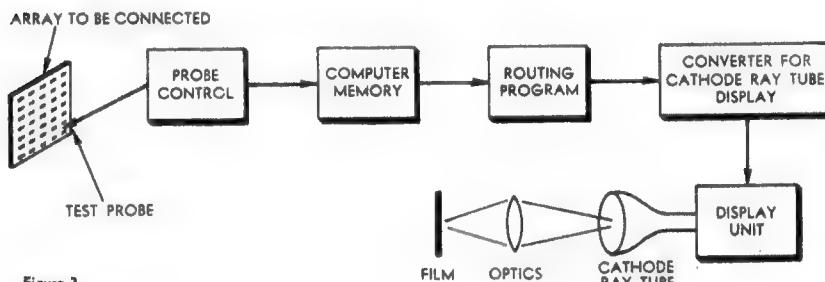

Figure 3
In one version, investigated by Texas Instruments, the "mask" which is used in printing the interconnections is made by photographing a pattern displayed on a cathode ray tube controlled by the computer (Figure 3). C. P. Sandbanks of Standard Telecommunications Laboratories described a different version at an Institution of Electrical Engineers Conference last year, which actually cuts out the mask-making stage. His idea is for the computer to control a machining tool, which etches the desired interconnection pattern with a laser.
*Figure 3: The Texas Instruments "discretionary wiring" system. A probe checks for faulty circuits in each array. A computer then produces an interconnection pattern which avoids the faulty circuits, and displays it for photographing.*